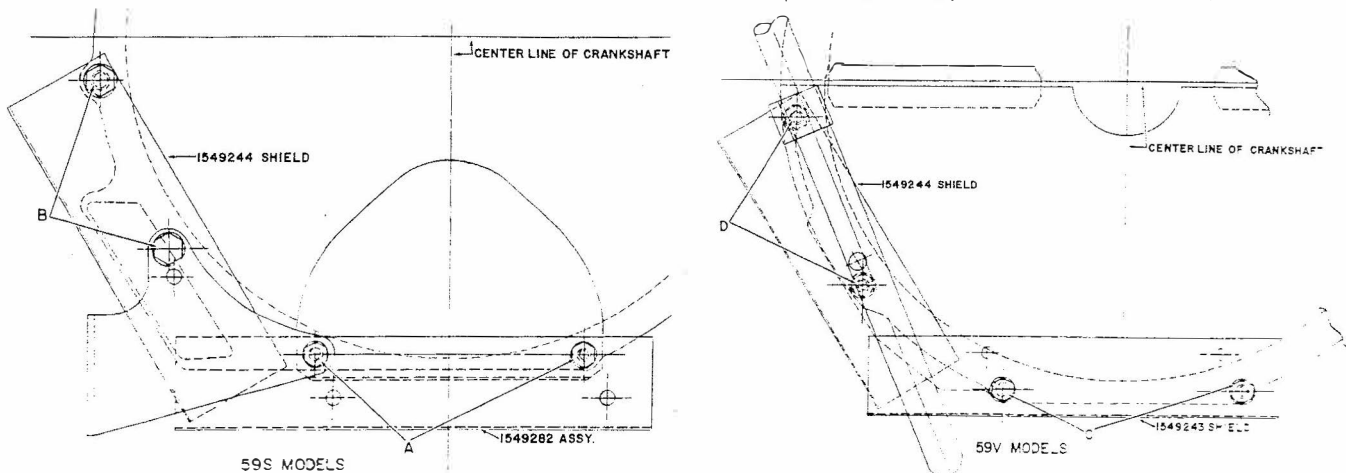

FIG. 6
- 1) Remove the two bottom engine rear plate-to-converter housing cap screws (identified by "A" in Fig. 6). Remove the engine rear plate cover and clip assembly and discard.
- 2) Remove the two engine rear plate-to-converter housing screws identified by "B" in Fig. 6. Install Part No. 1549244, Side Splash Shield, and reinstall the cap screws. This shield should be installed between the exhaust pipe support bracket and the engine rear plate.